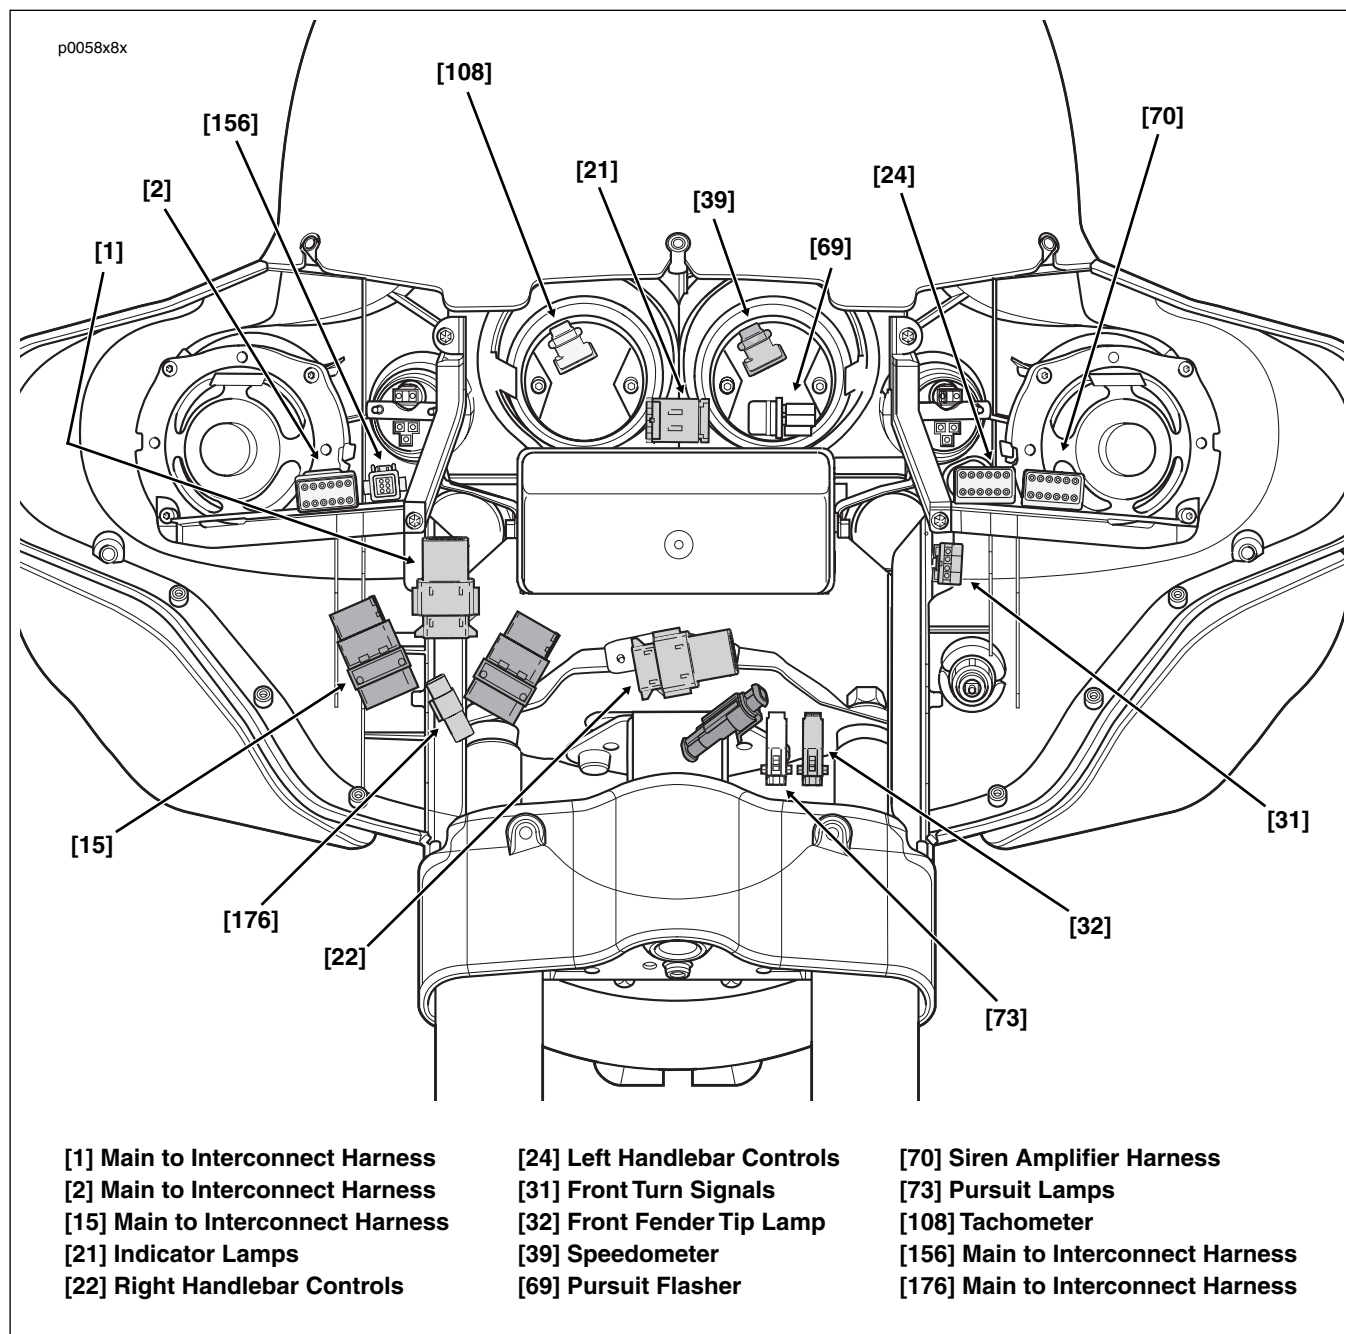

Figure 5. Inner Fairing - Interconnect Harness Connectors (FLHTPI)
7. Remove connectors from their retaining devices, if present, and disconnect pin and socket halves. See Figure 5.
9. See Figure 5. Mate pin and socket halves of the following connectors and fix positions using retaining devices, if present: